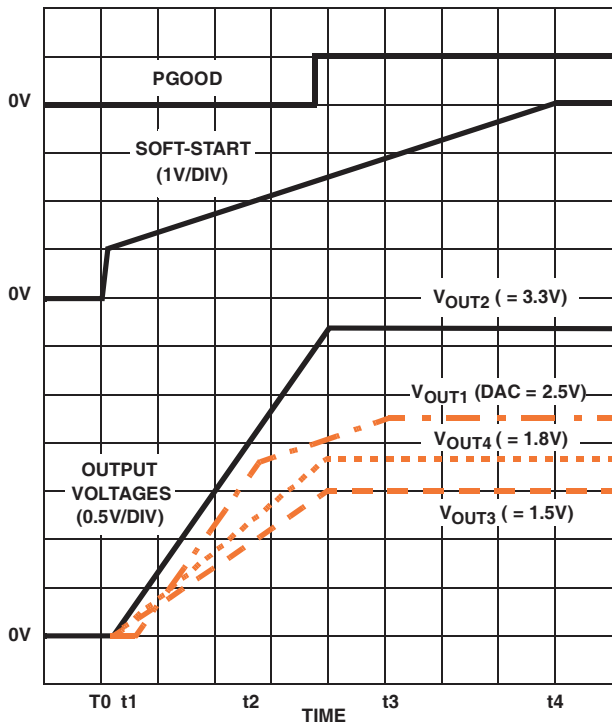

FIGURE 3. SOFT-START INTERVAL
Figure 3 shows the soft-start sequence for the typical application. At t_0 the SS voltage rapidly increases to approximately 1V. At t_1 , the SS pin and error amplifier output voltage reach the valley of the oscillator's triangle wave. The oscillator's triangular wave form is compared to the clamped error amplifier output voltage. As the SS pin voltage increases, the pulse-width on the PHASE pin increases. The interval of increasing pulse-width continues until each output reaches sufficient voltage to transfer control to the input reference clamp. If we consider the 2.5V core output (V_{OUT1}) in Figure 3, this time occurs at t_2 . During the interval between t_2 and t_3 , the error amplifier reference ramps to the final value and the converter regulates the output a voltage proportional to the SS pin voltage. At t_3 the input clamp voltage exceeds the reference voltage and the output voltage is in regulation.
the fault latch. The overcurrent latch is set dependent upon the states of the overcurrent (OC), linear undervoltage (LUV) and the soft-start signals. A window comparator monitors the SS pin and indicates when C_{SS} is fully charged to 4V (UP signal). An undervoltage on either linear output (VSEN2, VSEN3, or VSEN4) is ignored until after the soft-start interval (t₄ in Figure 3). This allows V_{OUT2}, V_{OUT3}, and V_{OUT4} to increase without fault at start-up. Cycling the bias input voltage (+12V_{IN} on the VCC pin off then on) resets the counter and the fault latch.
Initially, the soft-start function clamps the error amplifier's output of the PWM converter. This generates PHASE pulses of increasing width that charge the output capacitor(s). After the output voltage increases to approximately 70% of the set value, the reference input of the error amplifier is clamped to a voltage proportional to the SS pin voltage. The resulting output voltages start-up as shown in Figure 3.